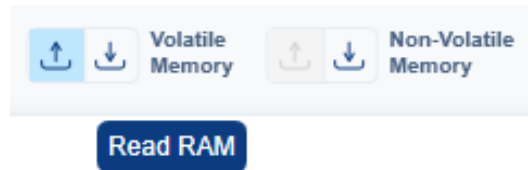

Figure 4: Read the MPQ4242B’s Register Values
- Click “ rRead RAM” on the toolbar to read the MPQ4242B-0000’s register values (see Figure 4).